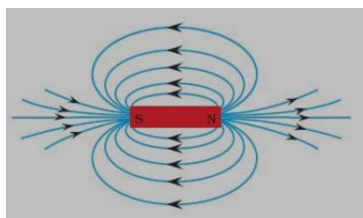

Fig. 4 Field lines around a bar magnet
- Repeat the above procedure and draw as many lines as you can. You will get a pattern shown in Fig. 4. These lines represent the magnetic field around the magnet. These are known as magnetic field lines.